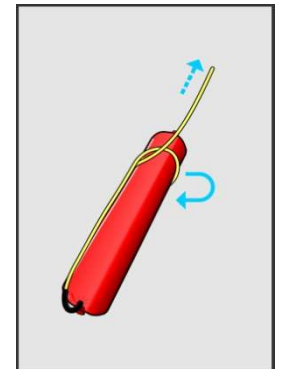

Fig. 4-6
5. Put a loop on the primer and tighten it. (Fig. 4-6)